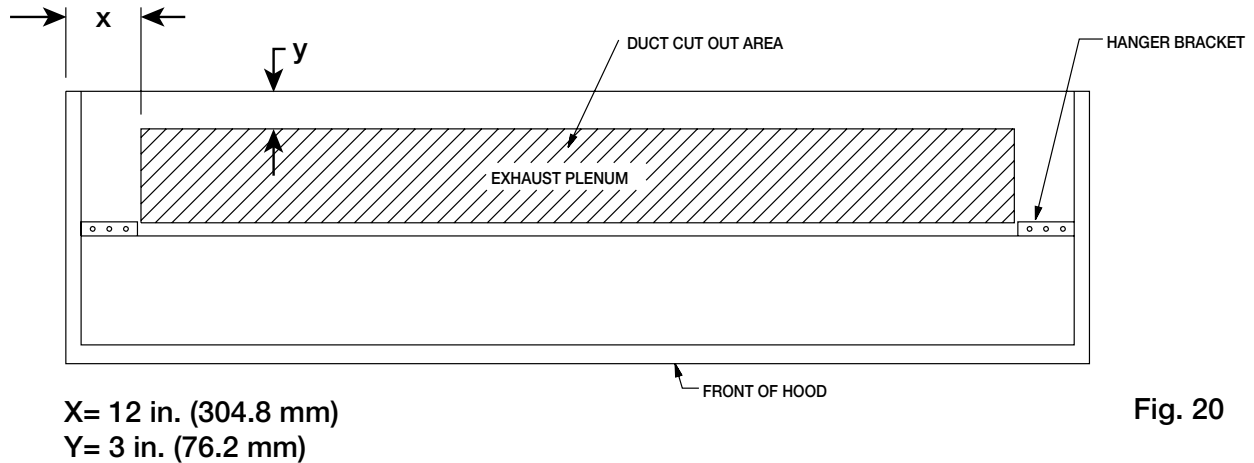

Fig. 20
2. The exhaust duct must be located within the shaded region of Fig. 20. Note dimensions. Dimension Y assumes a 3 in. (76.2 mm) integral airspace on the hood back. When no 3 in. (76.2 mm) integral airspace is present, Y=0 in. (0 mm).